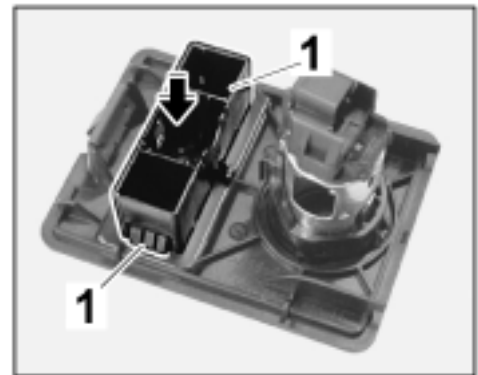

Figure 22
- 4.2.1 Release adapter close to the catches ⇒ *Figure 22 -1-* and remove adapter.